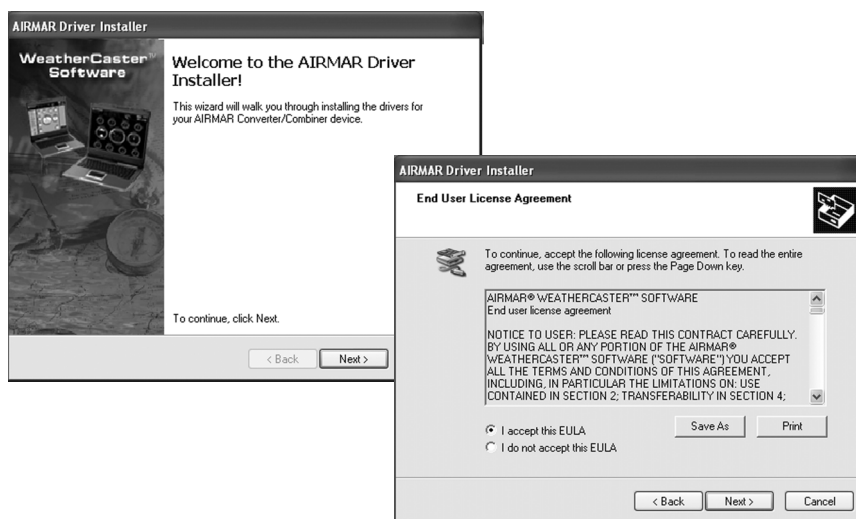

Figure 8. Driver Installer and End User License Agreement windows
2. The Driver Installer window will appear (see Figure 8). Click Next to continue.
3. The End User License Agreement window will follow (see Figure 8). Click the "I accept this EULA" button to accept the agreement. Click Next to continue.